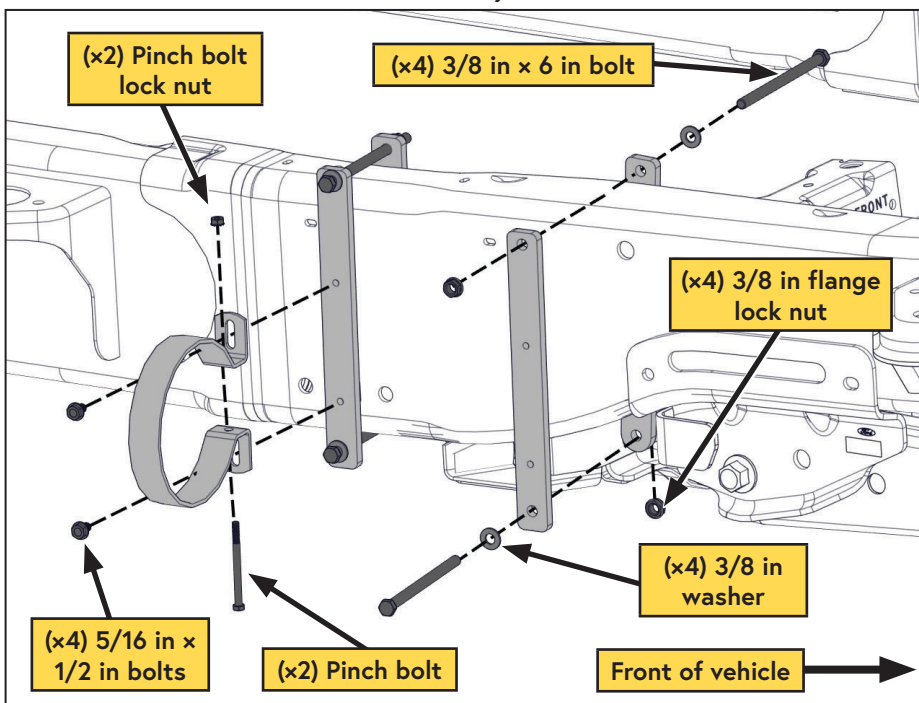

Figure 24 — Installing the AOST
The top bolt on the forward tank mount will need to be installed from the inside of the frame (Figure 24).
- ☐ Install the tank mounting brackets on the frame (Figure 24):
- ☐ Using the (x2) supplied 3/8 in x 6 in bolts, install the rear tank mount and backing strap approximately 10 in ahead of the rear cab mount. Leave the bolts finger tight to allow for minor adjustment (Figure 24).
Install the tank onto the tank mounts (Figure 24)*: